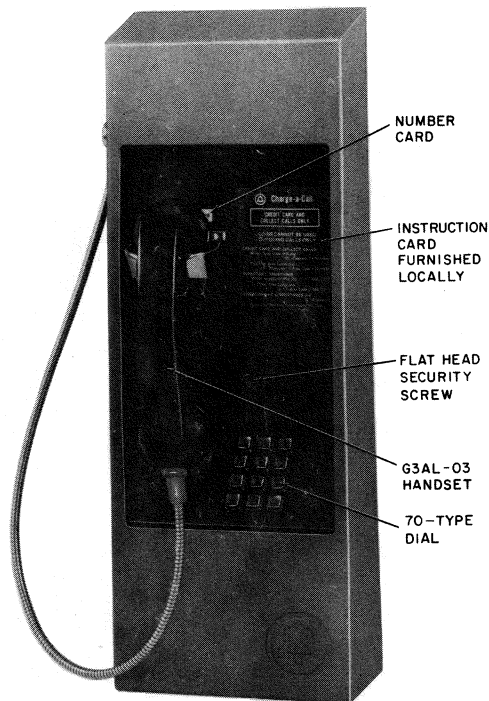

Fig. 1—10A Coinless Telephone Set
- (a) The 10A coinless telephone set (Fig. 1)
A. 10A Coinless Telephone Set (Fig. 1, 4, and 6)
**2.06** The instruction card (Fig. 1 and 7) must be fabricated and procured locally.